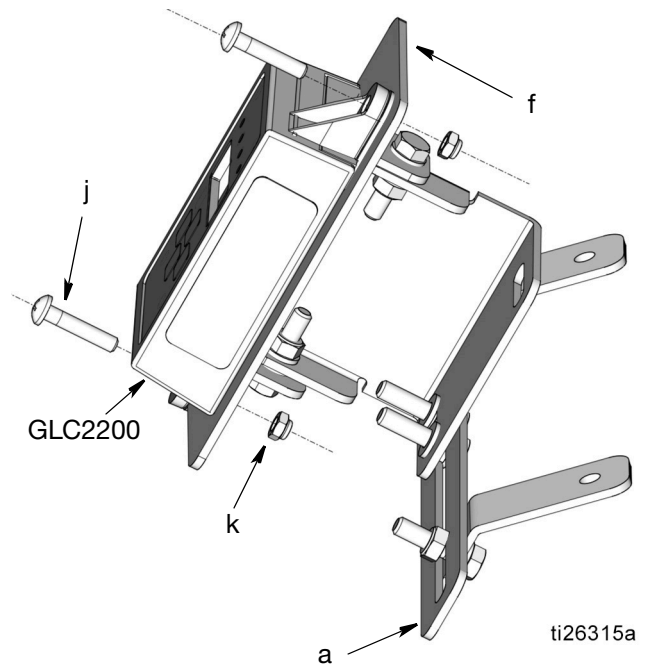

FIG. 88
- d. Install the GLC200 controller on the mounting plate (f) using screws (j), and nuts (k) as shown in FIG. 88. Tighten mounting bolts just enough to secure the controller in the bracket. Adjust the GLC2200 controller for the best viewing angle then wrench tighten bolts securely.